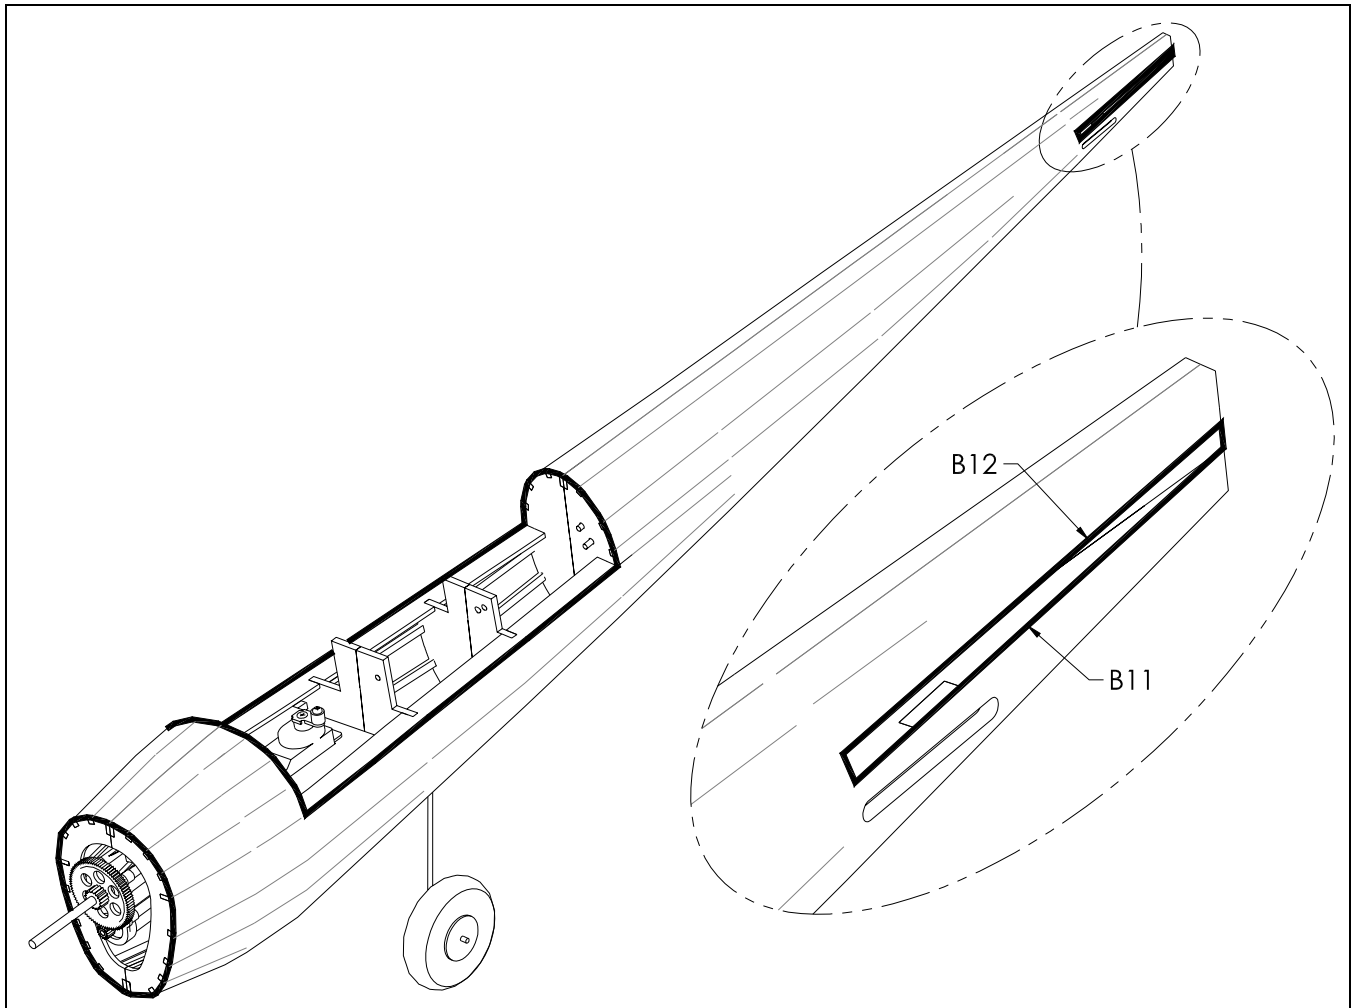

Figure 25
- ❑ Cover the entire boom except for the section between **B11** and **B12** (on both sides of the boom) and the other areas illustrated in Figure 25 and shown by bold lines. These areas interface the horizontal stab and wing.